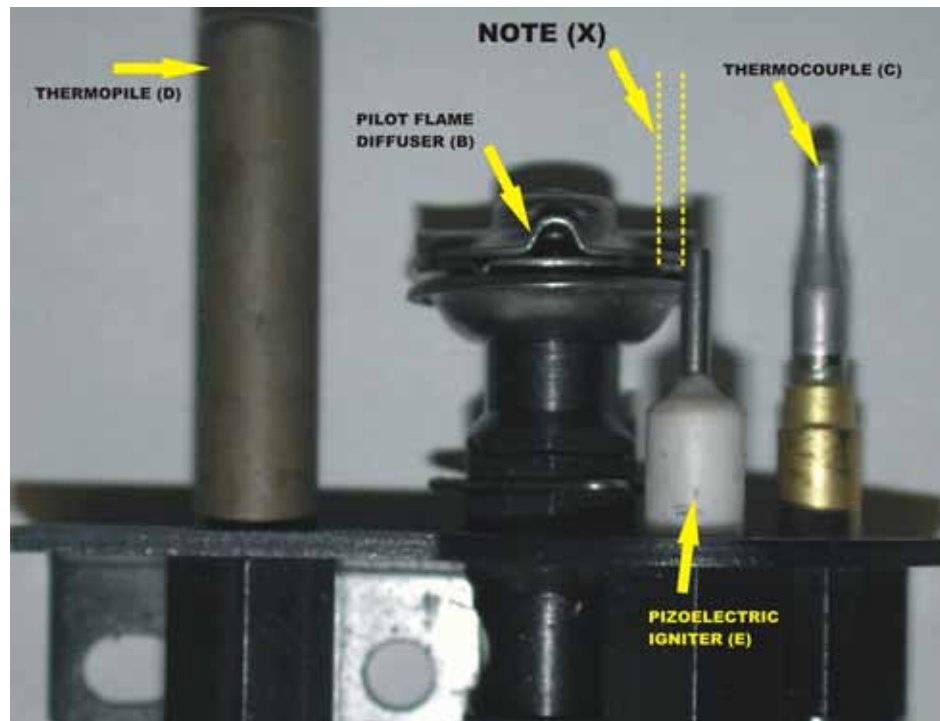

FIGURE 11: PILOT VALVE
STEP 13 Refer to FIGURE 11, Note (X). The piezoelectric igniter cannot be installed incorrectly unless it is damaged. The piezoelectric igniter should be in a parallel plane to the pilot flame diffuser body. Each time the igniter button is pressed, a blue arc should occur from the piezoelectric igniter to the pilot flame diffuser body. Replace the burners, the ember tray, the logs, the embers, and the door, ensuring correct position of all components.